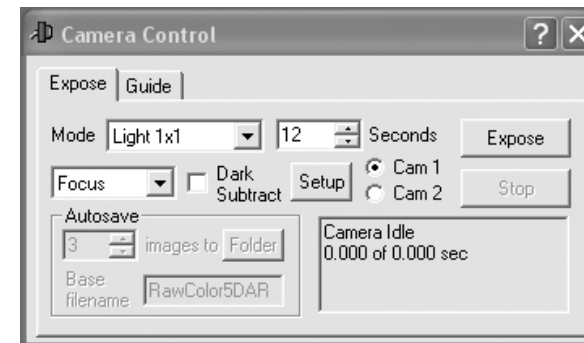
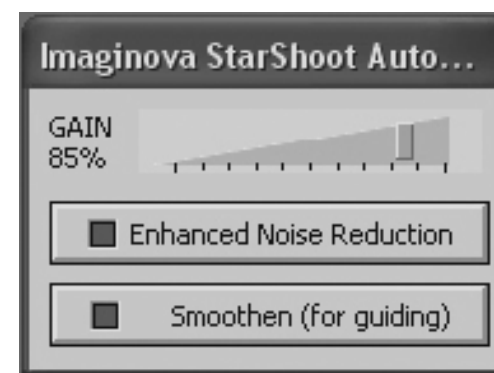

Figure 11. Cam 1 / Cam 2 camera control window in MaxIm DLE
Figure 12. MaxIm DLE AutoGuider window allows you to adjust the camera gain and optionally enable noise reduction to smooth out the background noise.
- Plug the SSAG and the SSDSCI/SSDSMI (II) into the USB ports on your computer.
- Load MaxIm DL Essentials. The **Camera Control** window should have an option to select **Cam 1** or **Cam 2** (Figure 11). You will also notice the **Imaginova StarShoot AutoGuider** window appear in the center of the screen (Figure 12). This window allows you to adjust the camera gain and optionally enable noise reduction.